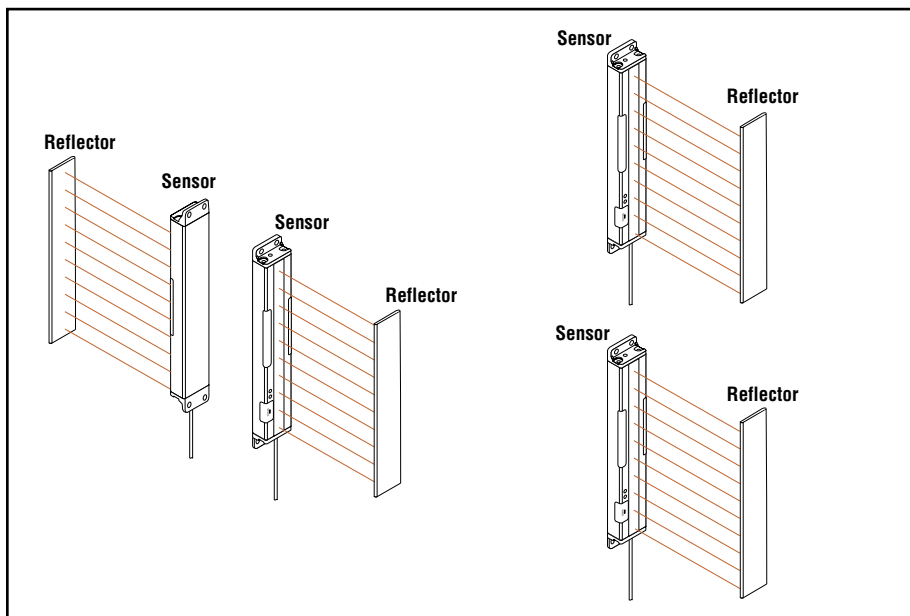

Figure 9. Position multiple sensors as shown to avoid crosstalk
- Position the sensors and retroreflectors (or bin walls) as shown in Figure 9.